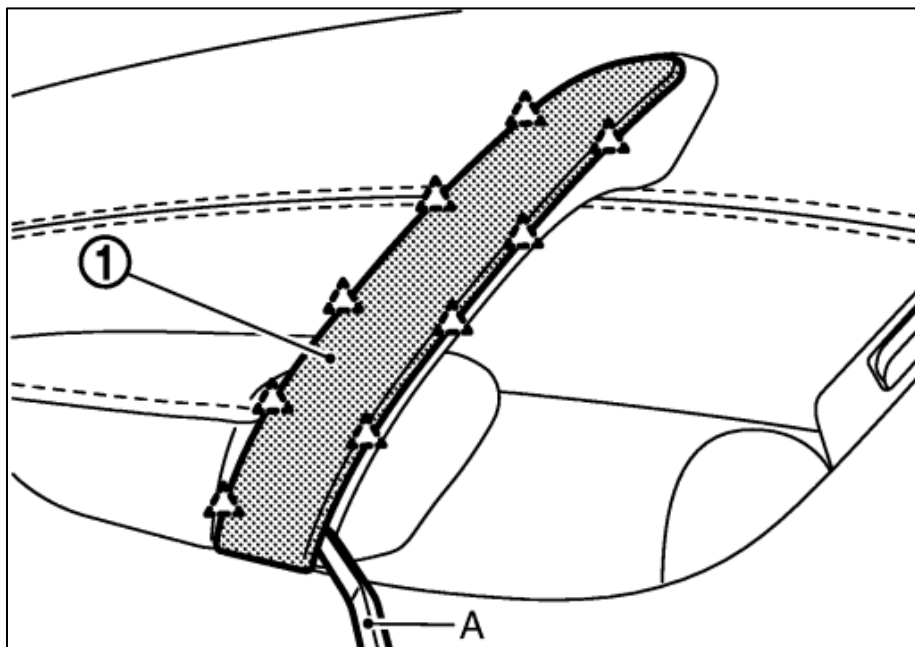

Figure 48
5. Remove the Trim Piece covering the Arm Rest. *Figure 48.*